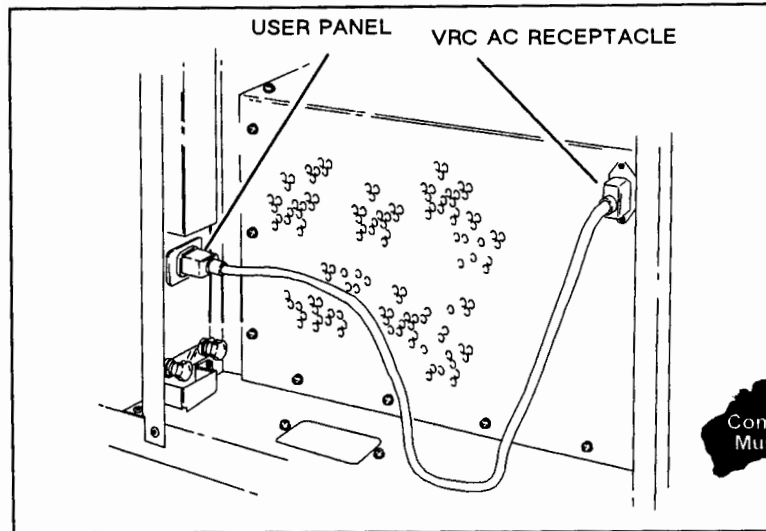

Figure 2-8. VRC Power Cord Connections
- e. Connect the VRC power cord to the VRC and to the ac receptacle on the User Panel inside the print engine. See Figure 2-8.